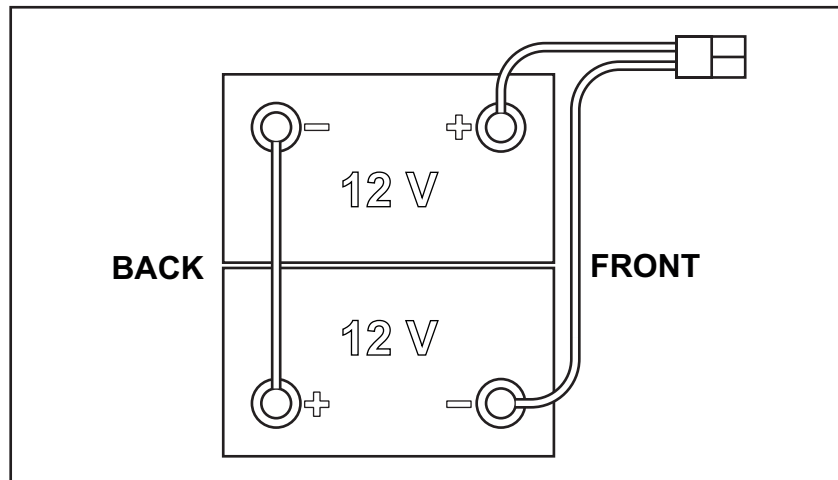

Figure 8
7. Route and install the battery cable as shown in the diagram (Figure 8), then carefully tighten the nut on each battery terminal.